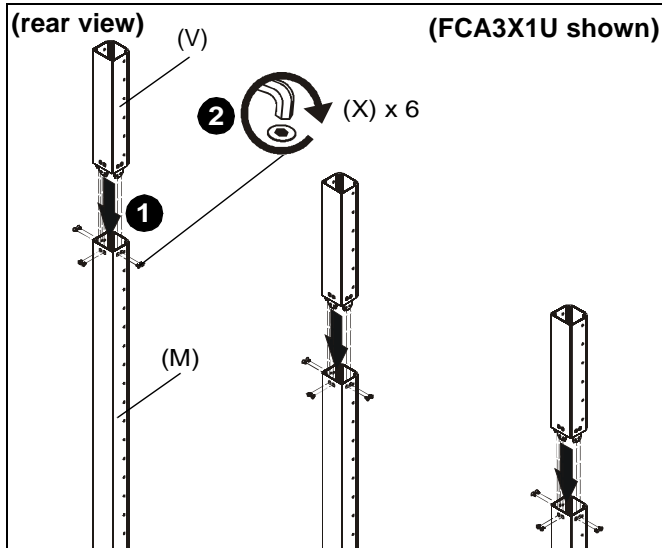

Figure 1
1. Insert one column add-on (V) to each column (M) making sure holes are lined up on each side. (See Figure 1)
2. Use 5/32" hex key (RR) and six 1/4-20 x 1/2" flat head cap screws (X) to secure each column add-on (V) to each column (M). (See Figure 1)